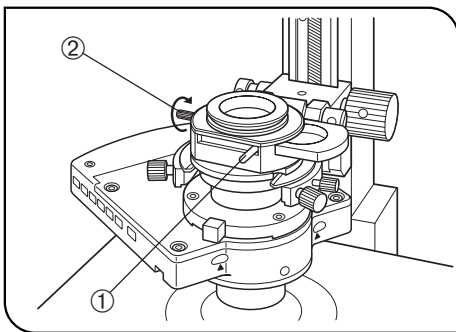

Fig. 52
(Fig. 52)
2. Move the polarizer detaching lever ① on the IX-LWPO polarizer unit to engage the polarizer in the light path. (Fig. 52)
4. Move the polarizer rotation/clamping knob ② on the polarizer unit horizontally in the counterclockwise direction around the axis until the position with which the field of view is darkest. (Fig. 52)